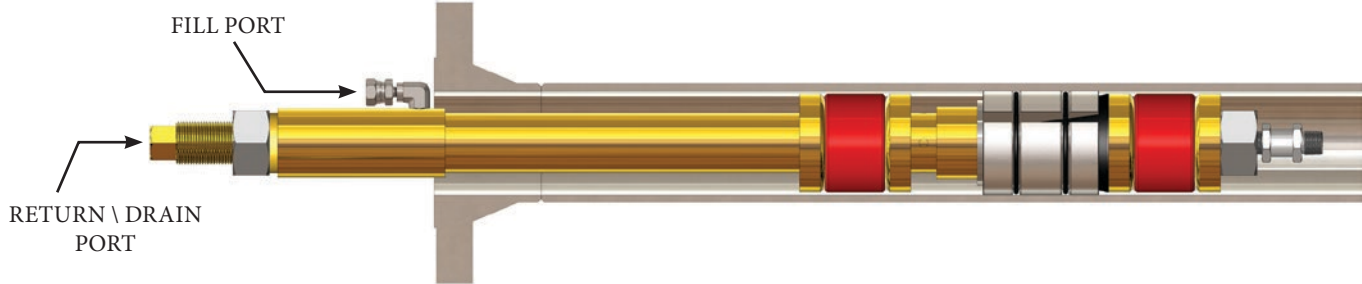

Figure 7: Fill and drain ports on the plug
- c. Connect a water pump to the *Fill Port / Swivel Pipe Union Fitting* ③.
1. Allow the water to drain freely from the *Return / Drain Port* (see **Figure 7**). This is only recommended when the plug isn’t subjected to backpressure resulting from chemical vapors originating beyond the check valve of the vessel that the plug is installed in. *(These vapors can flow by the Check Valve if enough pressure is generated behind the plug to create a 1/3 psi positive-pressure-differential originating in the vessel beyond the Check Valve. Under this condition, the result could expose workers to hazardous chemicals inadvertently from the vented return water).*
2. Attach a hose to the *Return / Drain Port* (see **Figure 7**) to direct water into a safe collection container. The hose should be long enough, and the container located far enough away, that any redirected hazardous vapors exiting the vessel, which may potentially flow by the *Check Valve* due to positive-pressure-differential, do not pose any risk to personnel that may be in the area.